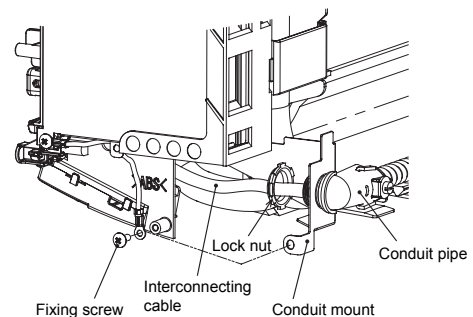

Fig. 10-4-7
5. Remove the conduit mount by loosening the fixing screw. (Fig. 10-4-7)